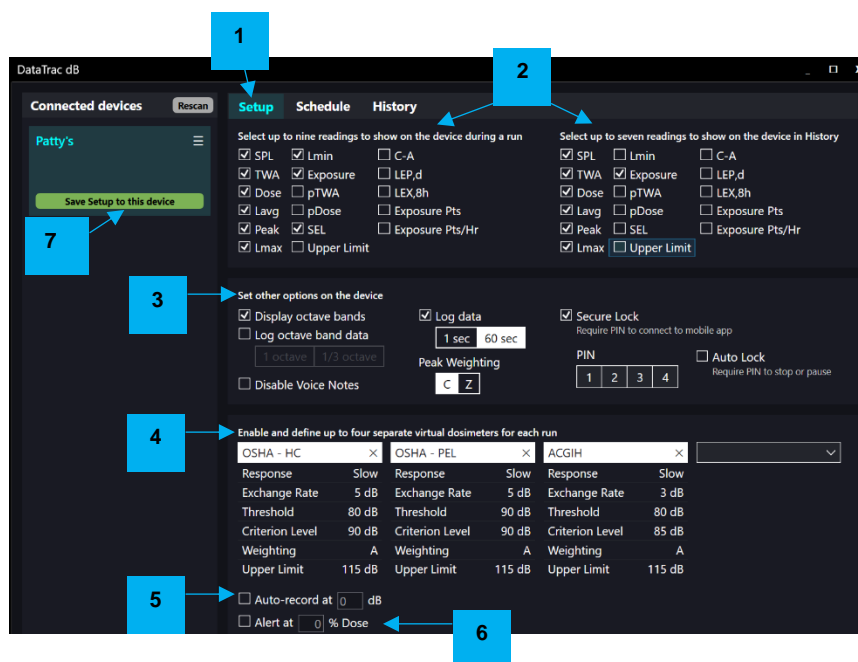

Figure 5. Setup Tab
Programming and Uploading Presets — Setup Tab (Figure 5)
3. Select options on device (see left to right in Figure 5) as desired: